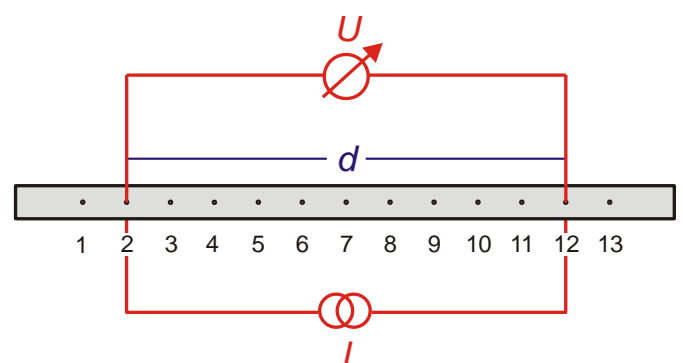

Fig. 2: Schematic of four-terminal sensing measurement
In the experiment, this relationship is used to determine the conductivity of metal bars using four-terminal sensing (Fig. 2). This involves feeding in a current I through two wires and measuring the drop in voltage U between two contact loca-
- Connect the “-” output socket on the back of the power supply to the hole in the side of the conducting rod level with the second measuring point (Fig. 2). Connect the “+” output socket on the back of the power supply to the hole in the side of the conducting rod level with the twelfth measuring point. Connect the digital multimeter in series between them for the purpose of measuring voltage.